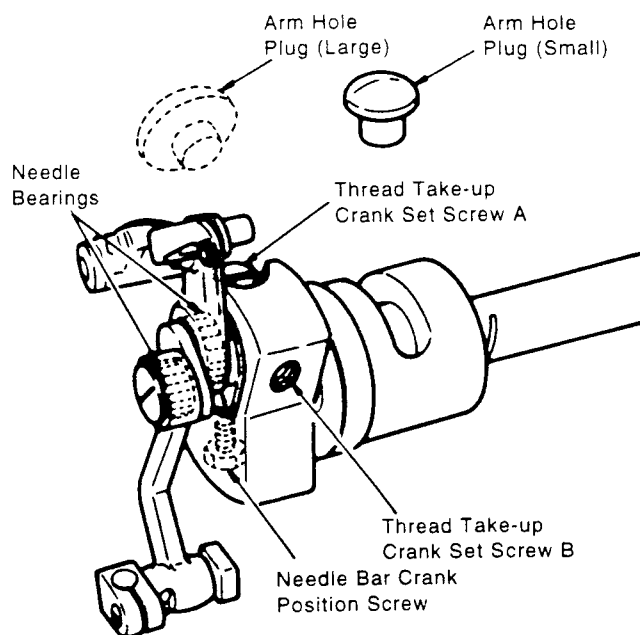

Fig.24
- CAUTION: DO NOT DISTURB the smaller hexagon head needle bar crank position screw, Fig. 24, which holds the needle bar crank at its correct position on the horizontal arm shaft.
3. Assemble thread take-up lever assembly to needle bar crank so that the set screw B will bear on the flat on thread take-up crank, as shown in Fig. 24.
6. If there is no side shake as mentioned in item 5 above, move thread take-up crank inward or outward in needle bar crank, as required, to obtain clearance.